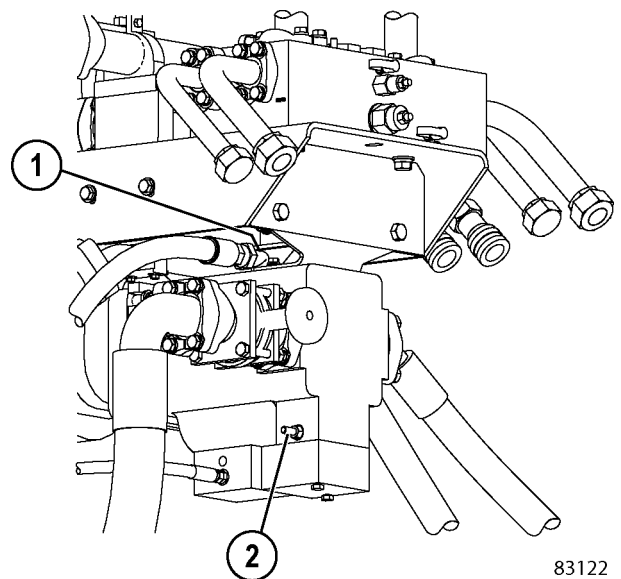

FIGURE 10-11. STEERING PUMP
13. Ensure the steering pump case is full of oil before startup to avoid pump damage. Disconnect the hose connected to fitting (1, Figure 10-11). Then remove fitting (1). Fill the steering pump case with clean type C-4 hydraulic oil through the case drain port. It may require up to 2.9 liters (3 quarts) of oil. Reinstall fitting (1) and reconnect the hose.